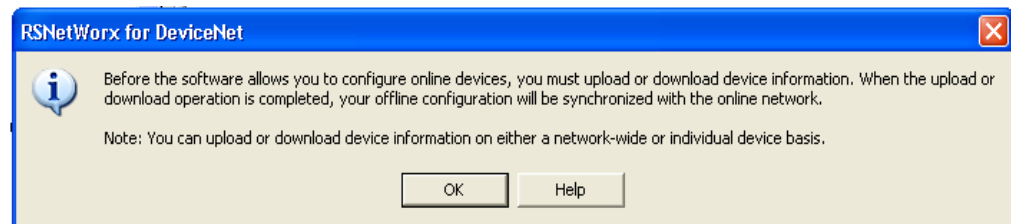

Figure 3-14: Confirmation Dialog Box
3. Click **OK** to continue. A dialog box like the one shown in Figure 3-14 will appear. Note that you may be asked to upload or download, depending on the version of software used.